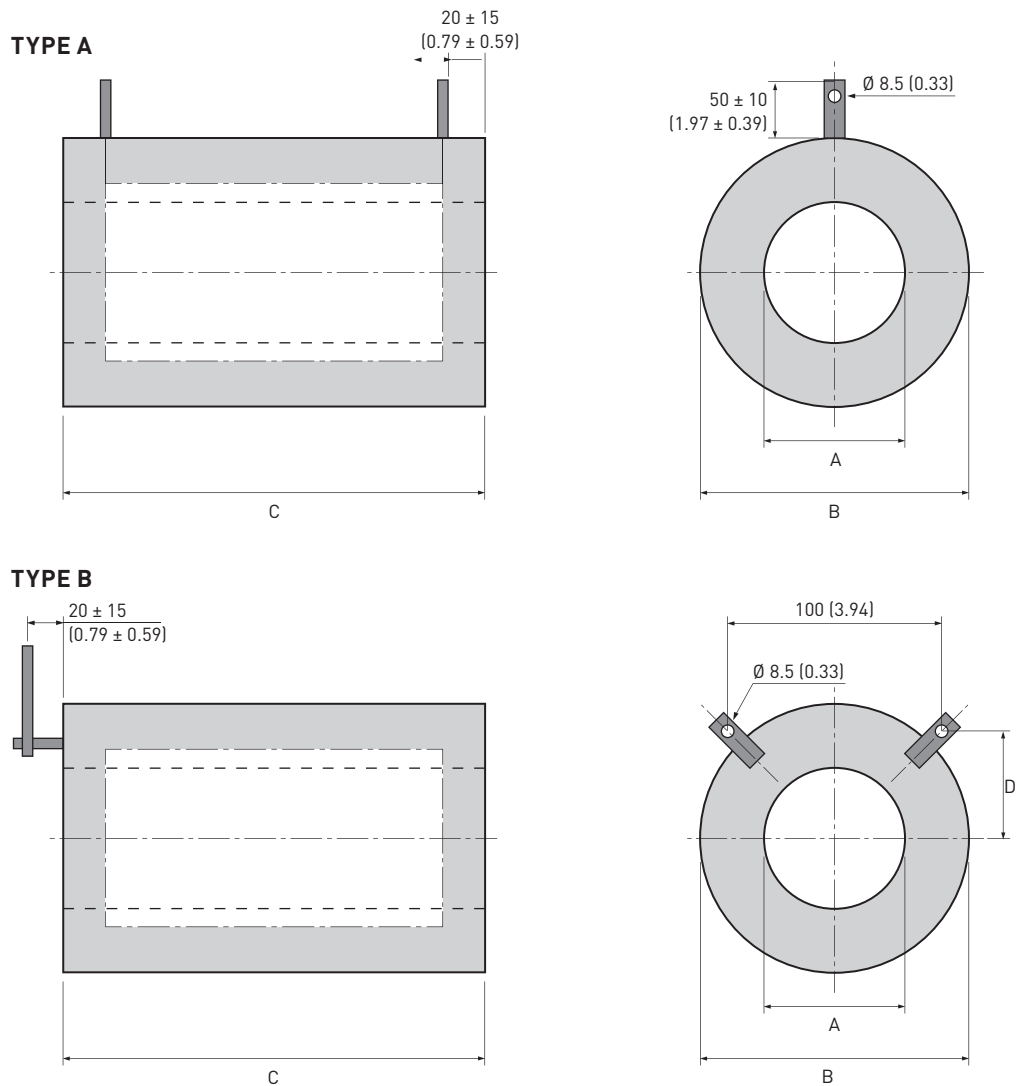

Fig. 12 Fibrothal™ standard tubes.
- High power concentrations can be installed (see Fig. 12)